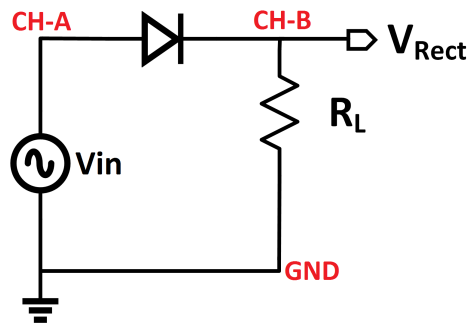

Figure 7: Half-wave rectified circuit
1. Assemble the circuit shown in Fig. 7. The labels in red are the connections to the ADALM1000.